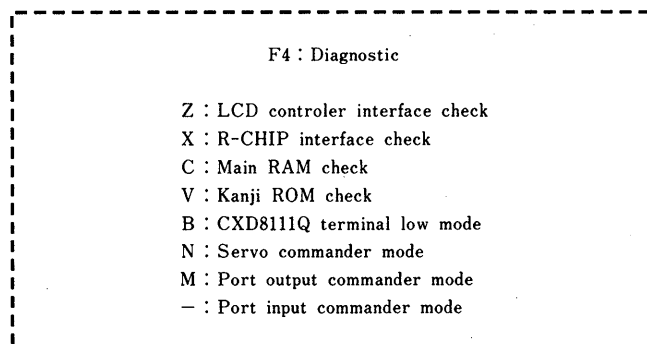

Fig. 1. The LCD Display when F4 is Pressed (F4 mode)
3. Press "F4" on the keyboard (Fig. 1).